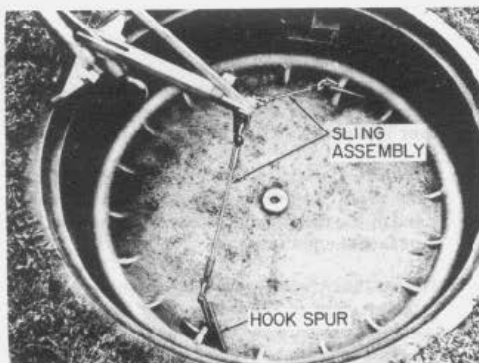

Fig. 28—Engaging Sling Hooks on Inner Cover
- (3) Slide the boom adjuster down the C cover lifter handle to the 30B designation (for 30A inner covers) or to the 27B designation (for 27A inner covers) and insert the locking pin.
- (4) Remove the locking pin in the upper end of the main handle, position the adjustable T handle to the retracted position, and replace the pin. *Engage the sling hooks in the hook holes in the rib of the cover as shown in Fig. 28, making sure that both sling hook spurs are pointing away from the fulcrum and that they engage the cover edge.*
6.06 To replace inner "A" covers, engage the sling hooks into the hook holes in the ribs of the cover as shown in Fig. 28 and **ensure that both sling hook spurs are pointing away from the fulcrum and that they engage the cover edge**. Position the boom adjuster as described in paragraph 5.09 (3). Press downward on the tool handle until the cover clears the ground and, while maintaining pressure on the handle, walk sideways, rotating the cover toward the manhole frame. Repeat this procedure,